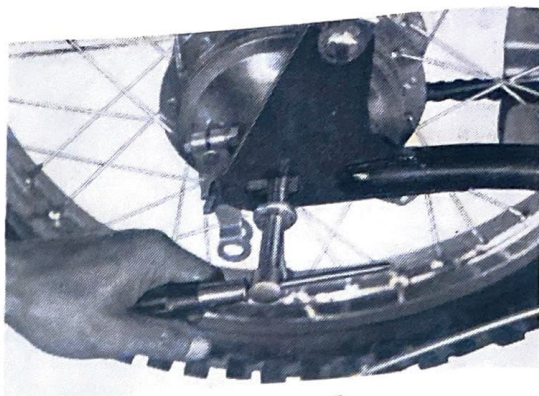

Fig. 4-2-5
- b. Remove the nut, then the rear wheel shaft. (Fig. 4-2-5)